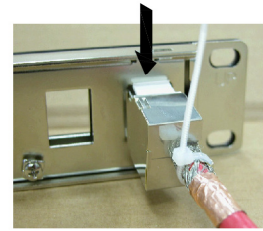

FIGURE 1
- A. Insert the Jack into the opening in the Patch Panel at an angle with the non-flexing side of the keystone latch facing down as shown in figure 1.